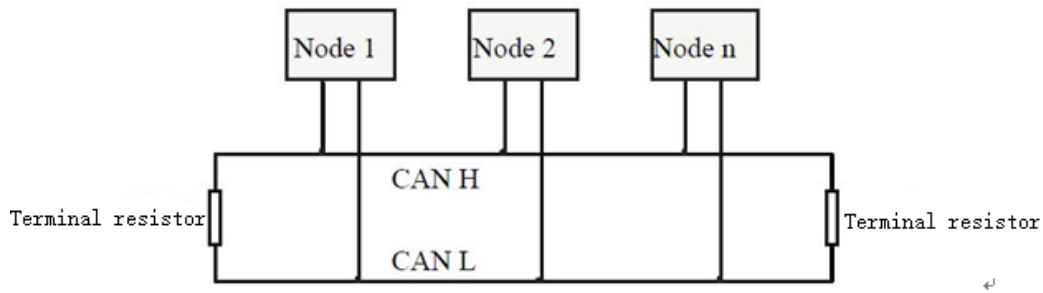

Figure 3.1 CAN(FD)-bus topology of the network.
The CAN (FD)-bus network adopts a linear topology, and the farthest two terminals from the bus need to install 120 Ω terminal resistors, and if the number of nodes is bigger than 2, the intermediate nodes do not need to install 120 Ω terminal resistors. For branch connections, the length should not exceed 3 meters. The connection of the CAN (FD)-bus bus is shown in figure 3.1.